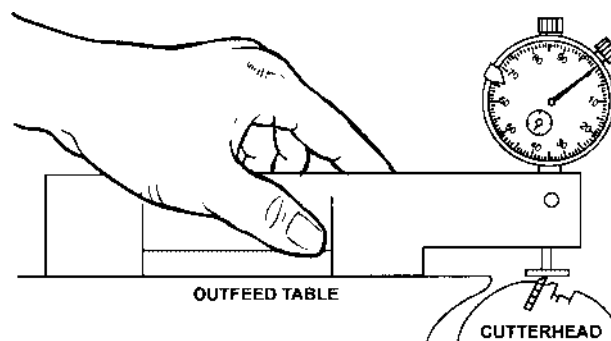

FIGURE 19
10. Now place it on the outfeed table to the *rear* of the cutterhead with the flat indicator point over the cutterhead. See Figure 19.